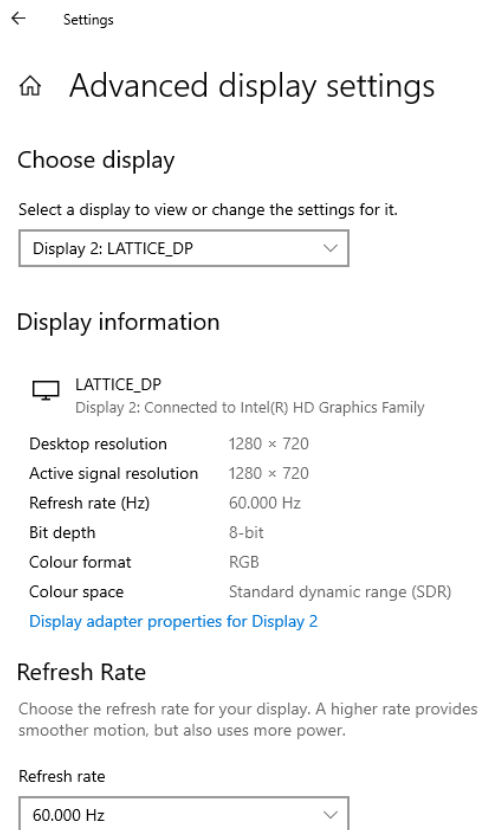

Figure 4.11. Display Settings
12. If a Windows PC is used as the DP source, the user needs to make sure that the **Desktop Resolution** is equal to the **Active signal resolution** in the laptop/desktop as shown in Figure 4.11 and Refresh rate as 60 Hz.